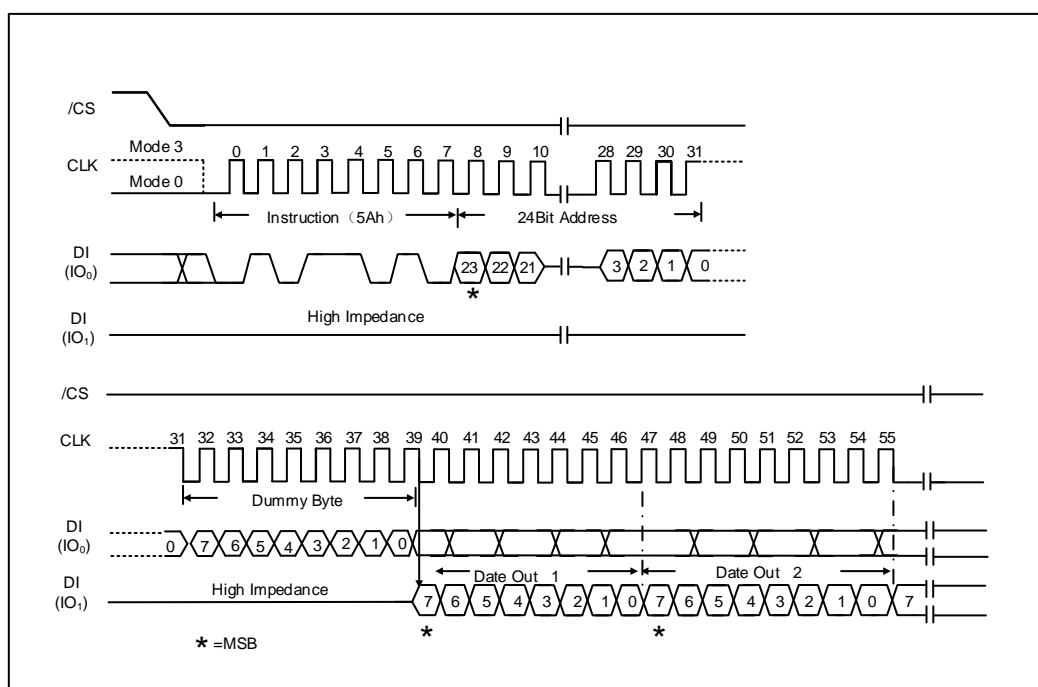

Figure 34. Read SFDP Register Instruction Sequence Diagram (Only SPI Mode)
The Read SFDP instruction is initiated by driving the /CS pin low and shifting the instruction code “5Ah” followed by a 24-bit address (A23-A0)(1) into the DI pin. Eight “dummy” clocks are also required before the SFDP register contents are shifted out on the falling edge of the 40th CLK with most significant bit (MSB) first as shown in Figure 34. The byte address is automatically incremented to the next byte address after each byte of data is shifted out. The last byte address of the register is FFh (the data will always be FFh when read after the last address). For SFDP register values and descriptions, please refer to the following SFDP Definition Table.